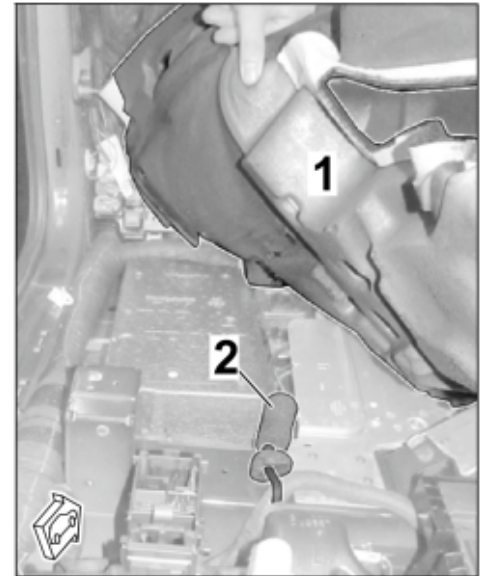

Figure 20
- 2.3.4 Loosen front left floor carpeting and fold it up as far as possible (⇒ *Figure 20*). ⇒ *Workshop Manual '704119 Removing and installing front floor covering'*